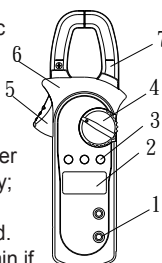

Figure 1
V. The Meter Structure (See Figure 1)